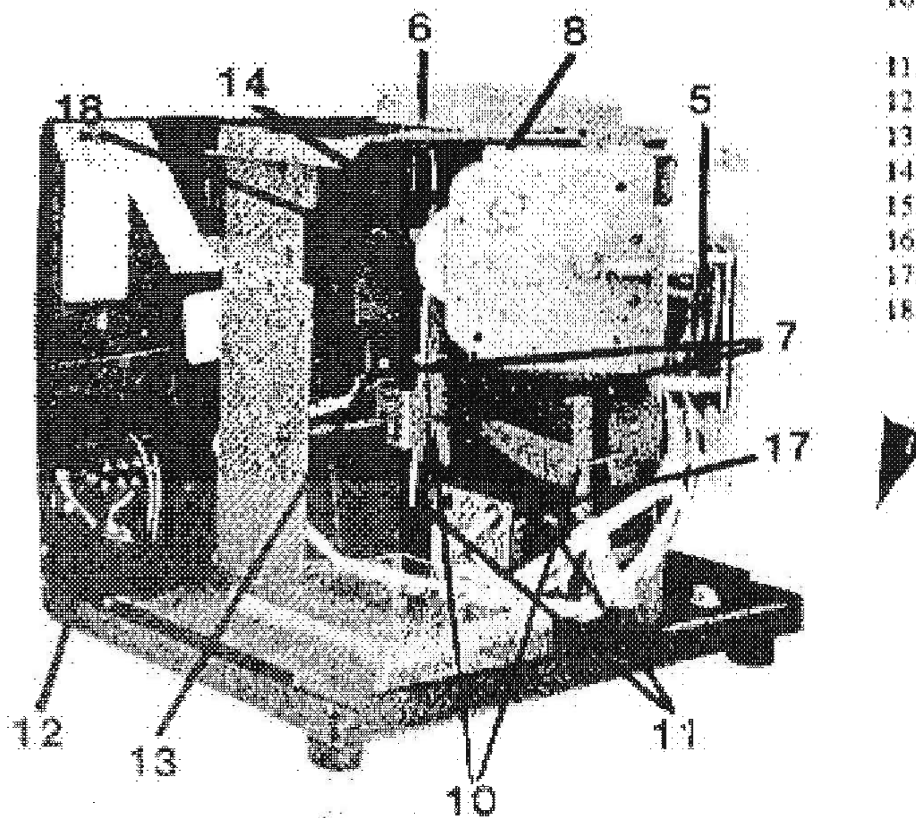
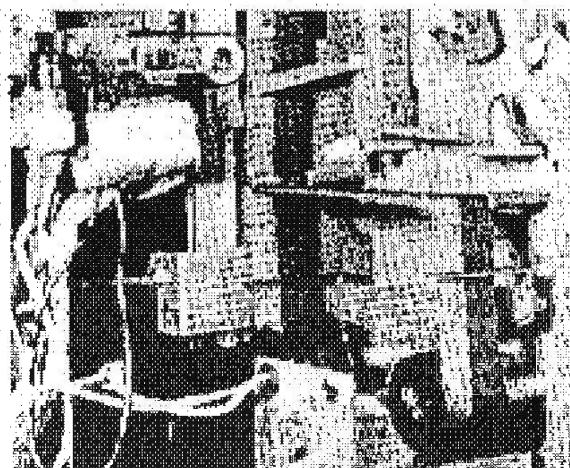

Figure 2
Figure 6
3. Push the Type Wheel Overthrow Lever (Figure 2, 8) down until it locks.
8. Rotate the Face Setting Wheel (Fig 2, 5) to advance hands on the clock face so that they coincide with the time on the type wheels. (To set DWA face, see page 14.)
4. Remove and retain cotter pins at ends of Ribbon Spindles (Fig 2, 11). Remove and discard ribbon.
6. Thread ribbon as in Figure 6. Ribbon reversing grommets must be under Ribbon Reversing Fingers (Fig 2, 10).